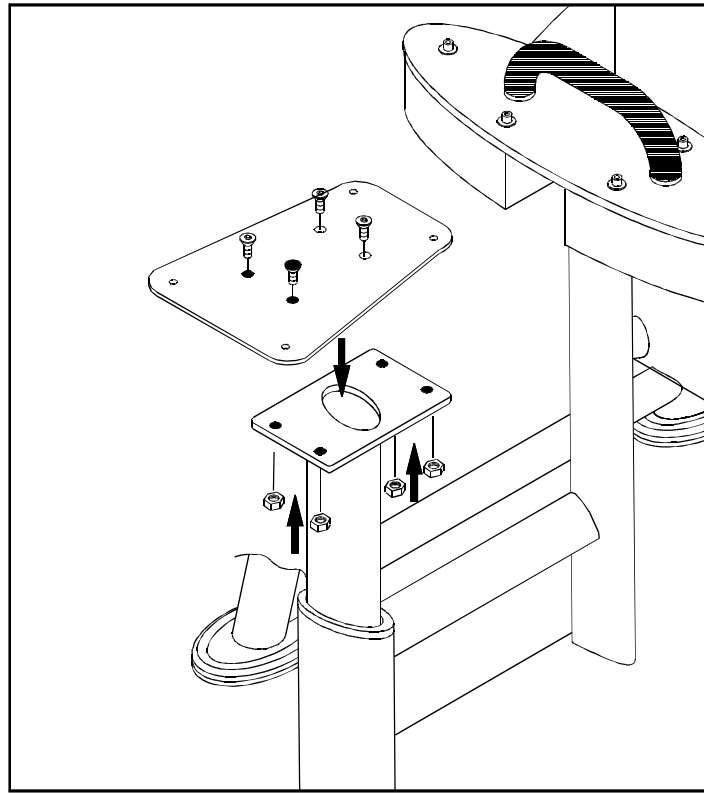

Fig.1
1. Fasten the seat plate with screws provided. (See Fig.1)